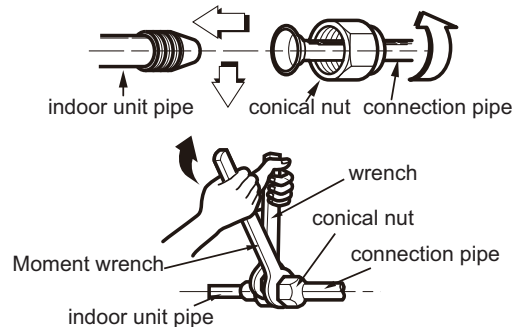

Fig.18
- Unfold the connection pipe, bend it according to the length needed, remove the screw cap on indoor unit pipe, match the connection pipe with the center of indoor unit pipe and then screw up the nut.(As show in Fig.18)